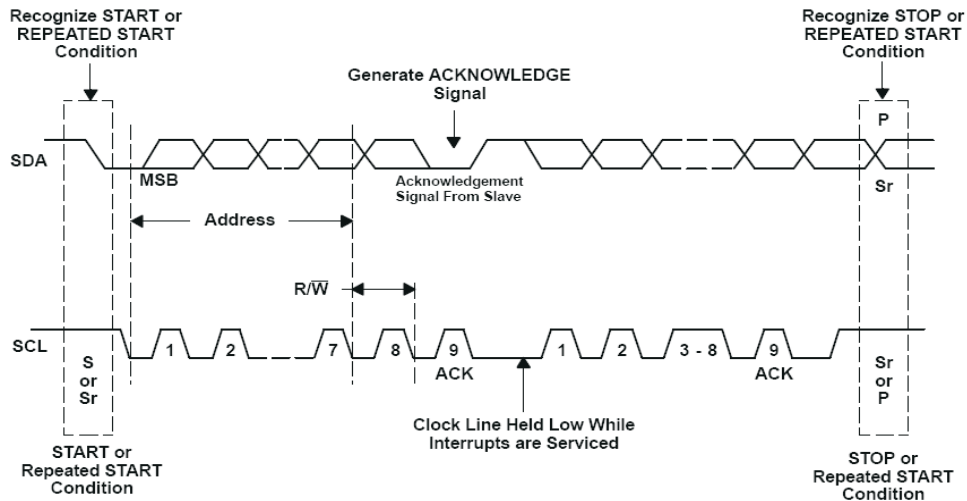

Figure 9-5. Bus Protocol
The master generates further SCL cycles to either transmit data to the slave (R/(W) bit = 0) or receive data from the slave (R/(W) bit = 1). In either case, the receiver needs to acknowledge the data sent by the transmitter. So an acknowledge signal can either be generated by the master or by the slave, depending on which one is the receiver. 9-bit valid data sequences consisting of 8-bit data and 1-bit acknowledge can continue as long as necessary. To terminate the data transfer, the master generates STOP condition by pulling the SDA line from low to high while the SCL line is high (see Figure 9-5). This releases the bus and stops the communication link with the addressed slave. All I²C compatible devices must recognize the stop condition. Upon the receipt of a stop condition, all devices know that the bus is released, and they wait for a start condition followed by a matching address.